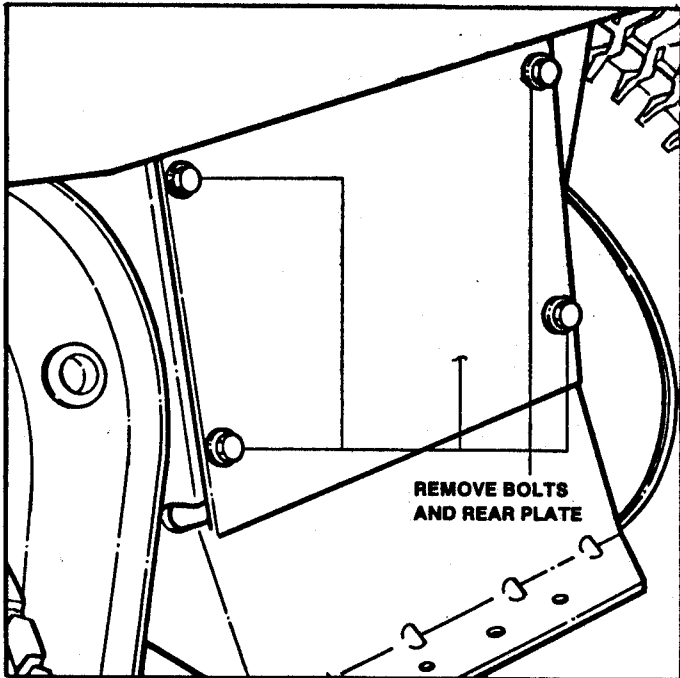

FIGURE 1
1. Remove the four (4) self-tapping screws from the rear plate of the tractor. Remove rear plate. See Figure 1.